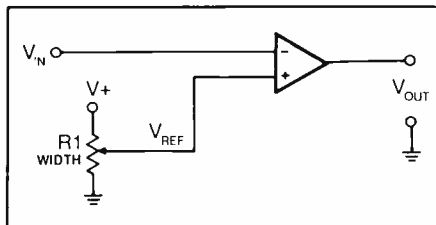
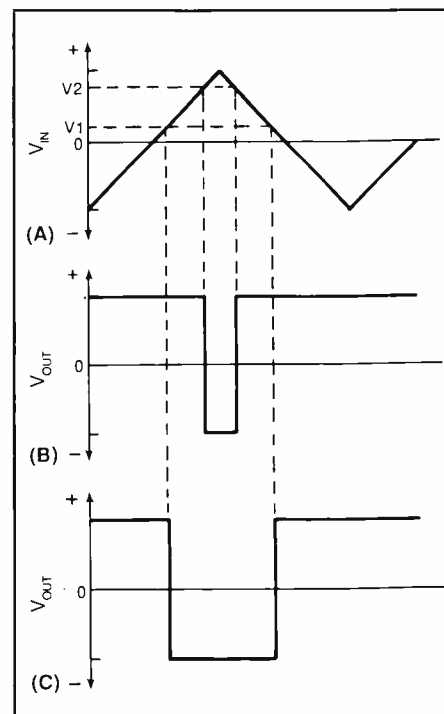

Fig. 2. A simple comparator circuit can be made from an ordinary operational amplifier run "wide open" with no feedback network.
Fig. 3. Waveforms from Fig. 2 circuit: (A) bipolar triangle input waveform and (B) output waveform when reference voltage is at V_1 level.
basically an amplifier that has too much gain and, thus, saturates with a very-low-amplitude input signal. An op amp that is run wide open with no feedback network is an example of how a comparator can be made, as shown in Fig. 2.
The gain of the Fig. 2 circuit arrangement is the open-loop gain of the op amp. The open-loop gain of the inexpensive and commonly available 741 op amp, for example, is 300,000. So for a maximum output of 10 volts, the input saturates at an input level of 10 volts/300,000, which is a minuscule 33 microvolts! The output of a comparator can be summed up as follows: (1) When V_{in}
In Fig. 2, the comparator is shown wired so that a reference voltage is applied to the noninverting (+) input and the triangle waveform is applied to the inverting (-) input. Figure 3 shows the waveforms under two circumstances: (A) is the input waveform (a bipolar triangle waveform), and (B) is the output waveform when the reference voltage is at V_1 . In this case, the threshold is not tripped until near the peak of the triangle; so the output is low for only a short period of time. When the reference voltage is adjusted to the V_2 level, however, the triangle waveform is greater in amplitude than the reference potential for a longer time. The result is a wider output pulse.